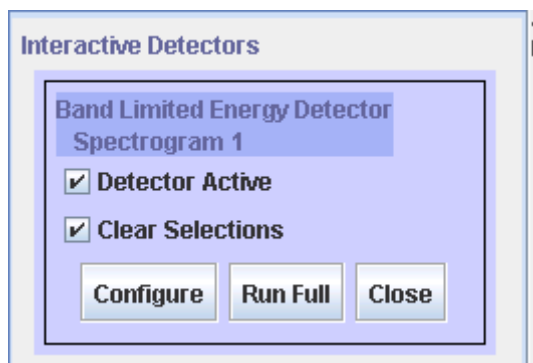

Figure 10.1. The Run Full button in the detector tab on the side panel
2. **Full detection:** Once specific parameters are chosen that work for short sections of a recording, Raven can run a full detection process on the entire recording even if only a single page is shown in the window. Located in the Tools menu and through the “Run Full” button in the interactive detector panel (see Figure 10.1), full detection is useful for bulk processing of large datasets.